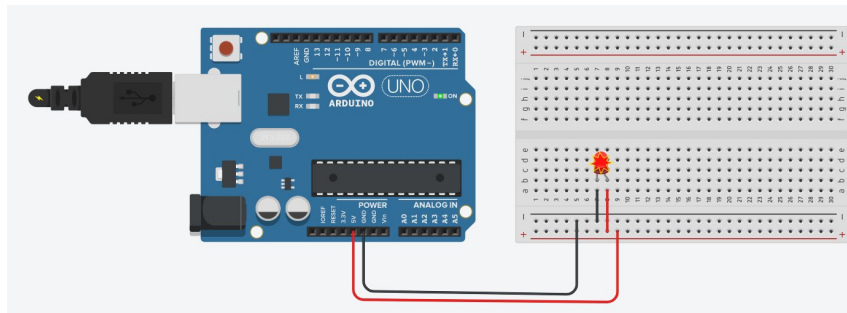

Figure 13.3: Initial Setup
- Drag an **LED** and drop it near the breadboard (see Figure 13.3).